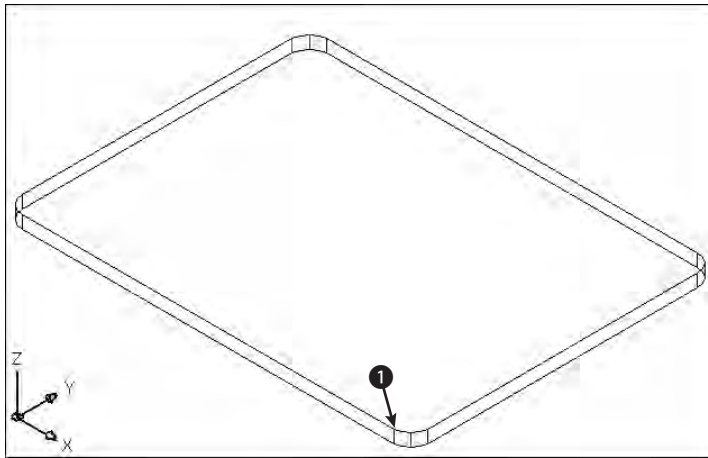

Figure 23-30: The tabletop
2. Save it as `ab23-05.dwg` in your AutoCAD Bible folder. You see a tabletop drawn at a Z height of 30. The current elevation is 30. You are looking at the table from the SE isometric view. OSNAP should be on. Set running object snaps for endpoint, midpoint, and center. The current layer is `Const`. The drawing is shown in Figure 23-30.
_ from Base point: *Pick the endpoint at ❶ in Figure 23-30.*